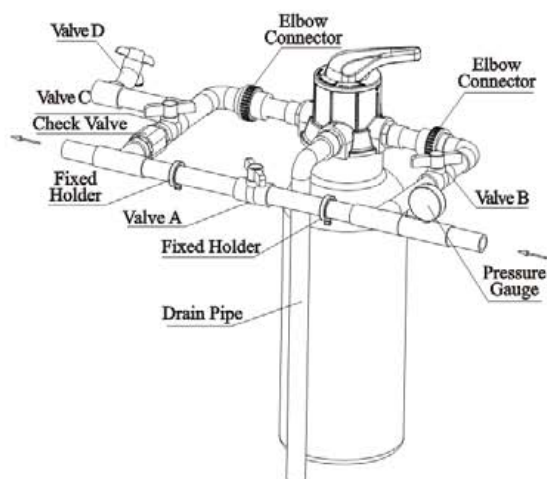

Figure 1-2
**②Pipeline connection**
- a. As Figure1-2 shows, install a pressure gauge in water inlet.
- A. Close the inlet valve B & C, and open the bypass valve A. After cleaning the impurities in the pipe, close the bypass valve A. (As Figure 1-2 shows, the same as below)